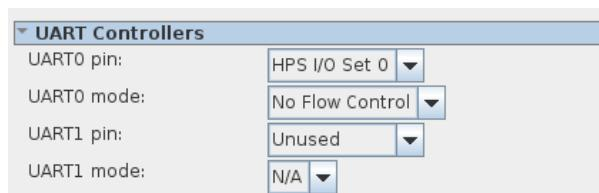

Figure 9-10. UART configuration
- Configure “UART0 pin” to “HPS I/O Set 0” and “UART0 mode” to “No Flow Control”, as shown in Figure 9-10.